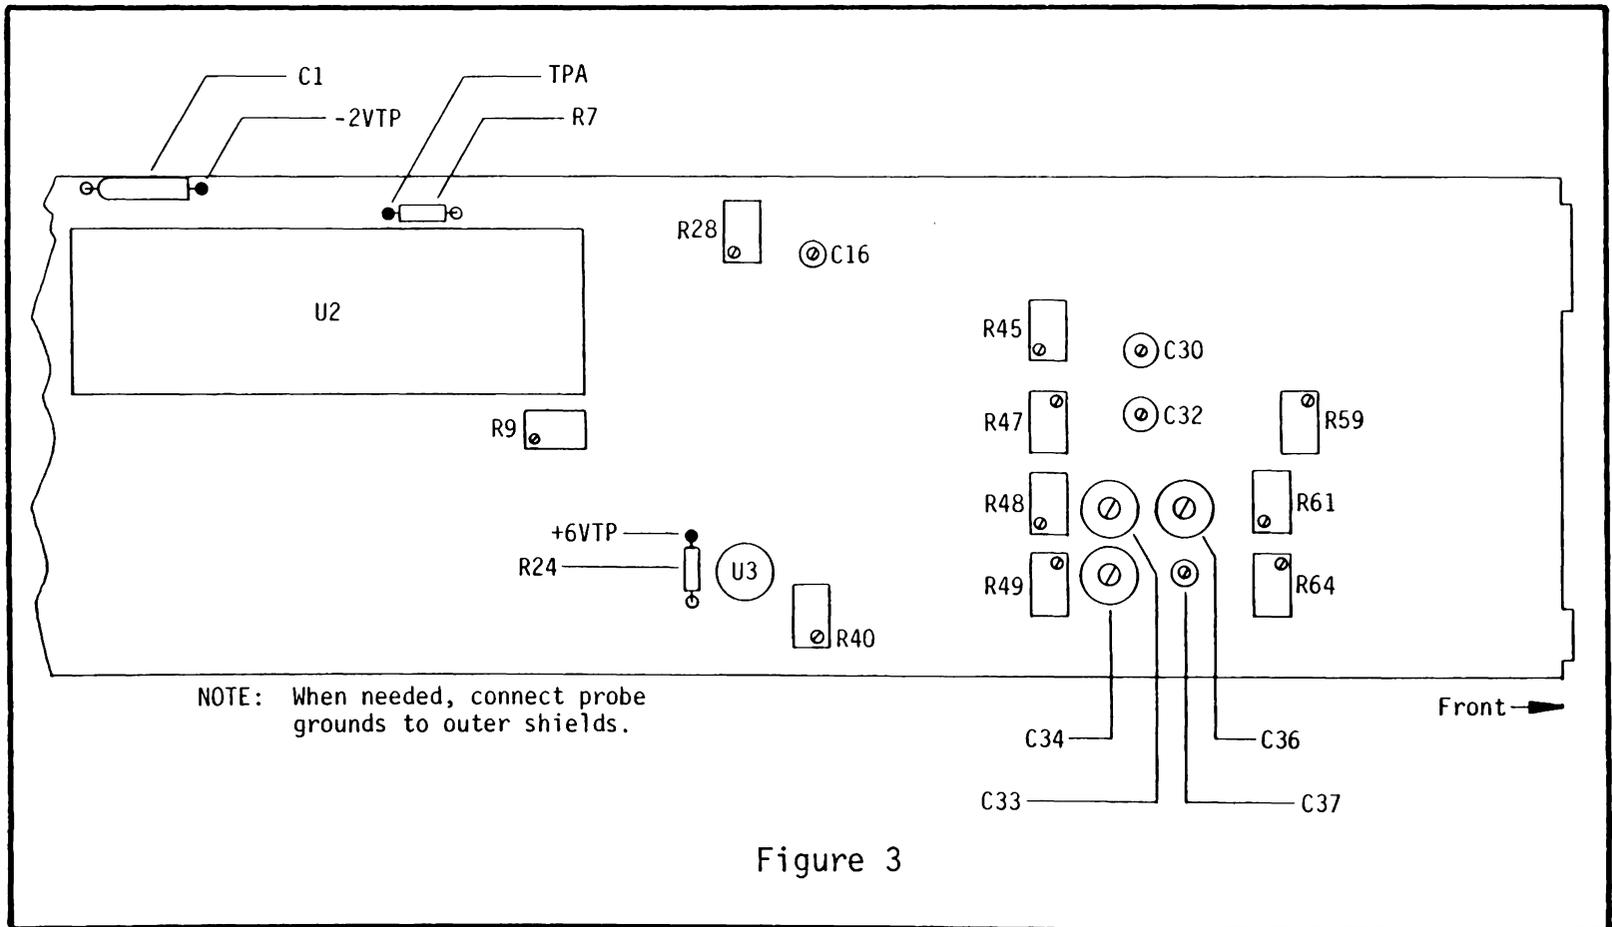
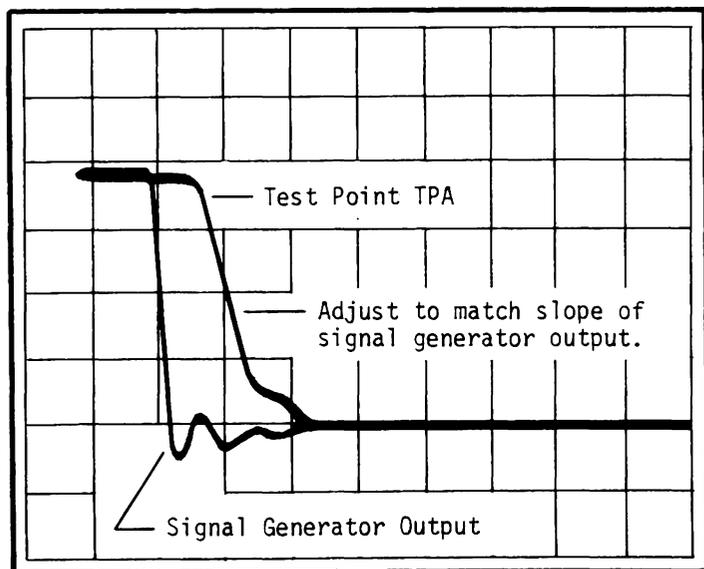

Figure 3
Figure 4 - Unacceptable Response
2. Connect multimeter to -2VTP. (See Figure 3)
3. Connect multimeter to +6VTP. (See Figure 3)
6. Connect analog oscilloscope to output of signal generator and to test point TPA on the digitizer board. (See Figure 3).
7. Adjust C16 (Figure 3) until the slopes of the signal generator output and test point TPA are identical. (See Figures 4 and 5.)